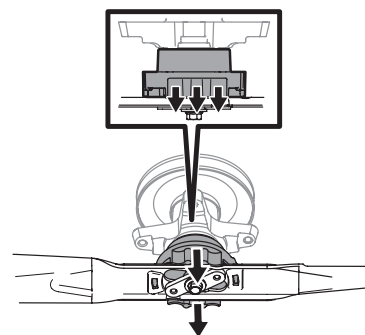

Figure 6
6. There will be an audible click when the blade is properly locked in place. See Figure 6.